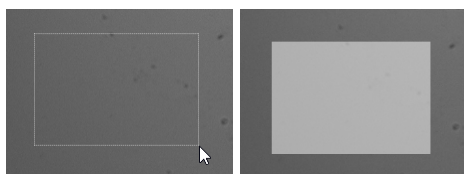

Figure 3-49 Drawing a square (l), square ready (r)
5. Press **SQUARE** to draw a square, see Figure 3-49.